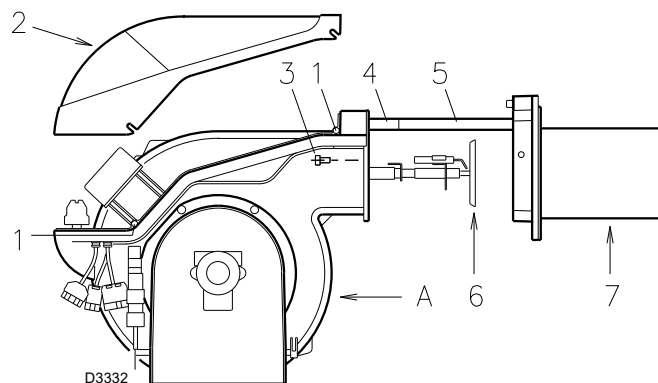

Fig. 32
- Loosen screws 1)(Fig. 32) and withdraw the cover 2).